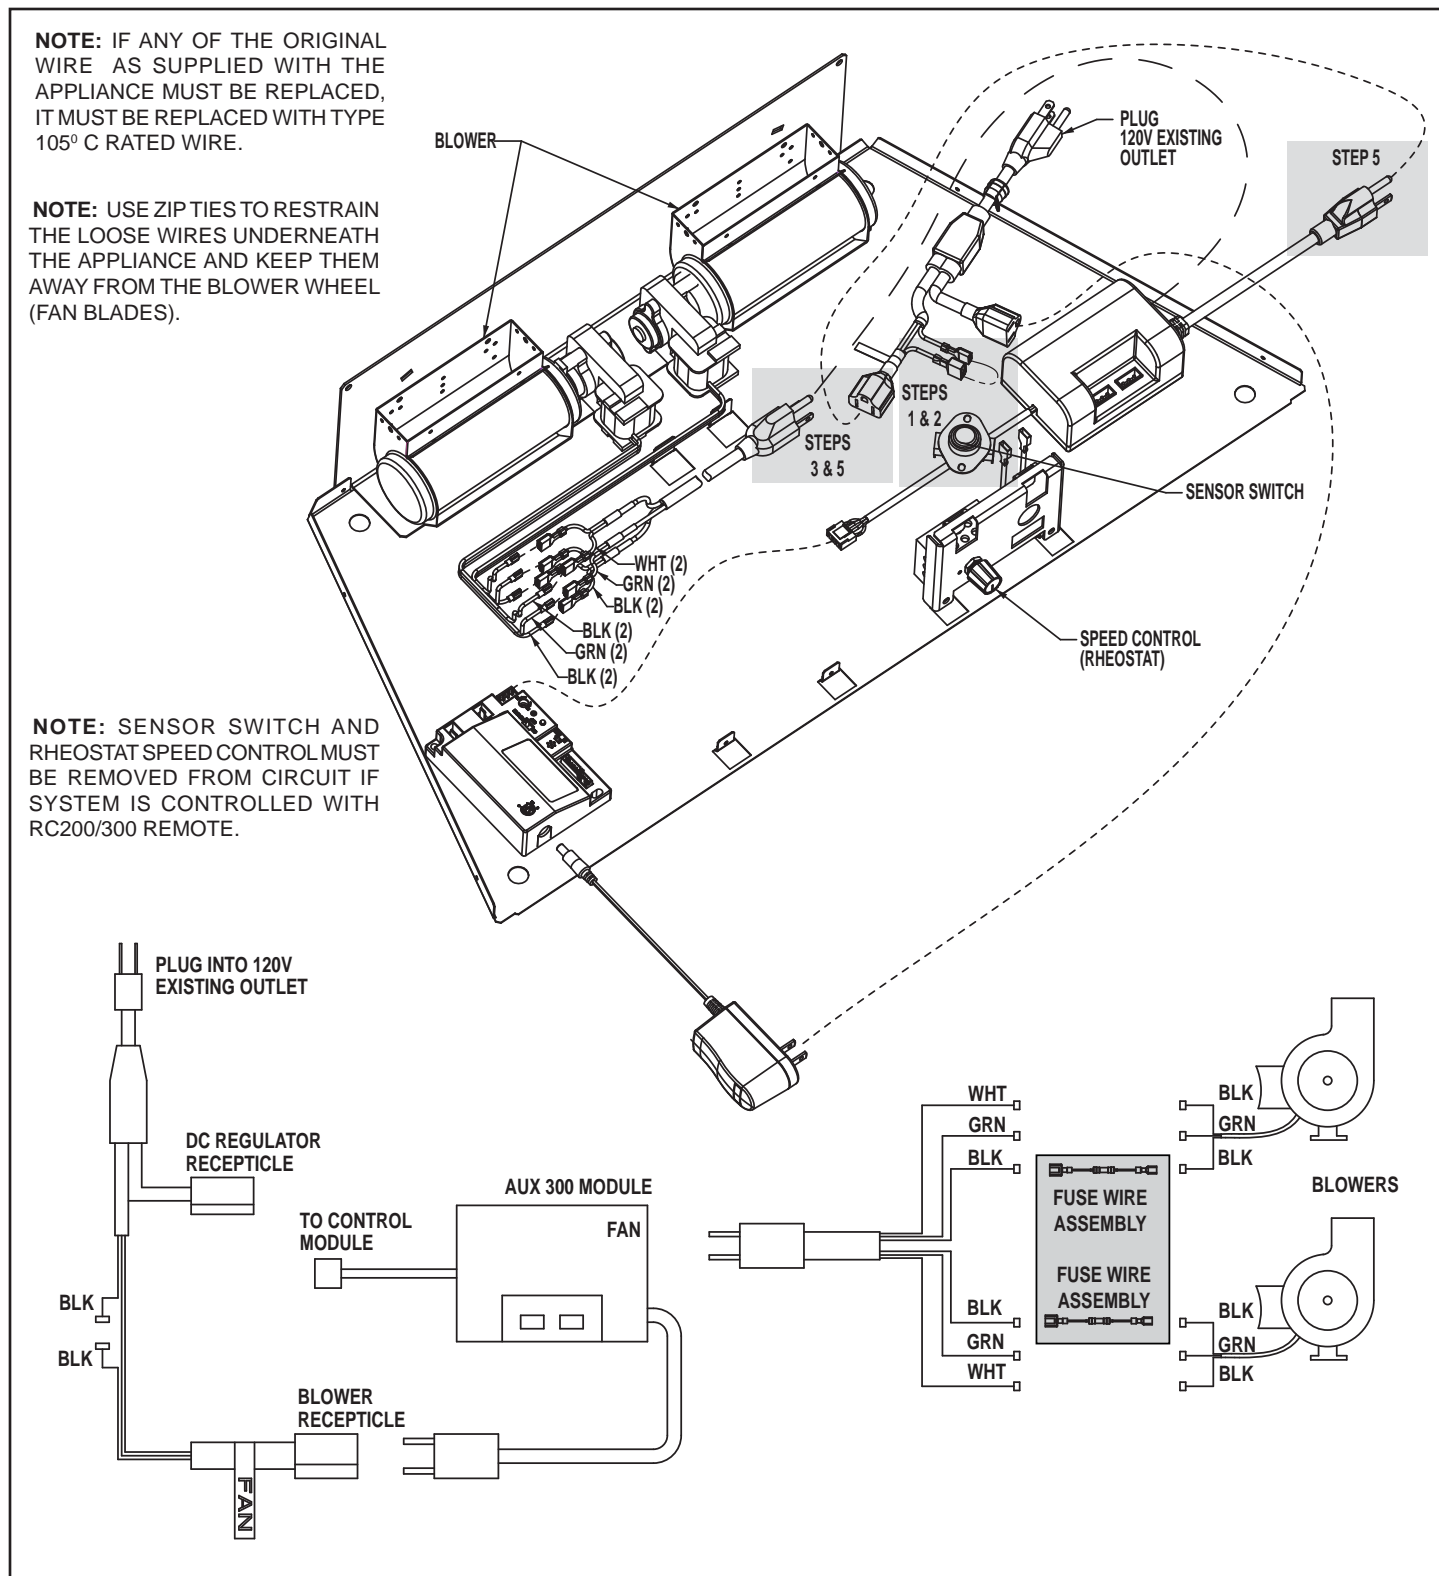

Figure 7. Fan Wiring Diagram - Metal Insert with RC200/RC300 Remote
This appliance may be used with an RC200 or RC300 remote control. See Figure 7.
4. Install fuse wire assembly in series between the black lead wires of the fan cord and black lead wire on each blower. See Figure 7.